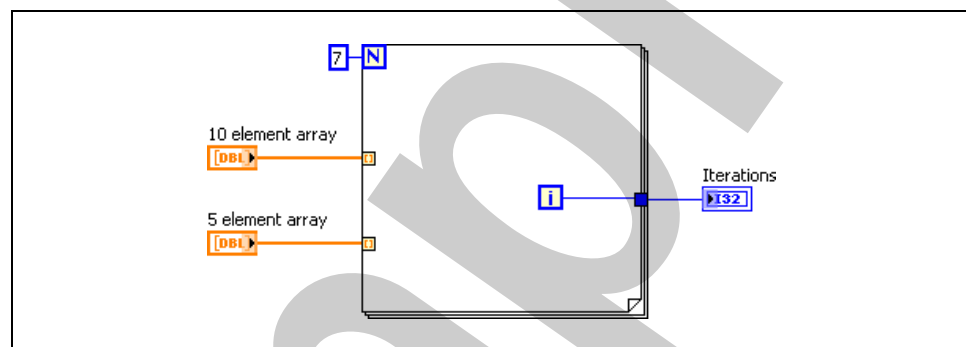

Figure 5-17. What is the Value of the Iteration Indicator?
2. You have two input arrays wired to a For Loop. Auto-indexing is enabled on both tunnels. One array has 10 elements, the second array has five elements. A value of 7 is wired to the Count terminal, as shown in Figure 5-17. What is the value of the Iterations indicator after running this VI?